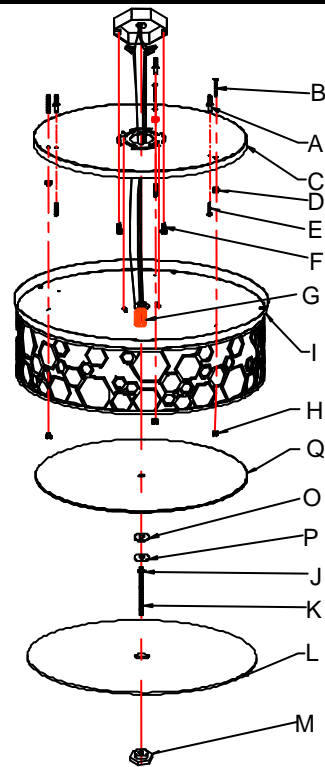

Fig. 2
## CONNECTING THE WIRES (Fig. 2)
6. At this point, connect the electrical wires as shown in Fig. 2, making sure that all wire connectors are secured. If your outlet box has a ground wire (green or bare copper), connect the fixture's ground wire to it. Otherwise, connect the fixture's ground wire directly to the mounting plate using the green screw provided. After wires are connected, tuck them carefully inside the junction box.